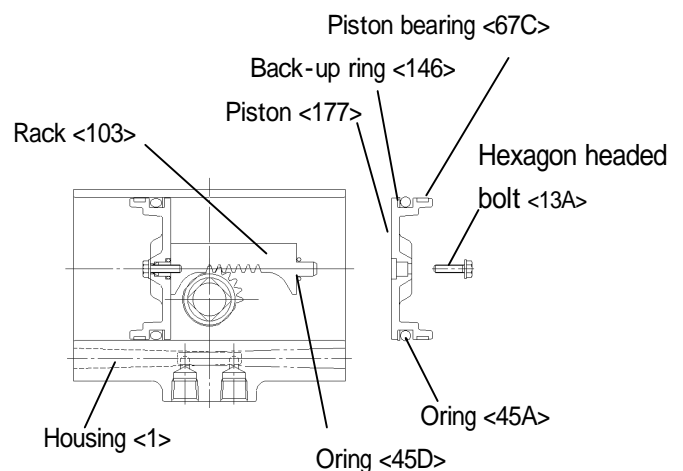

Fig.4
- (6) Loosen a hexagon headed bolt and remove a piston from the housing, by picking an outside rib with pliers (Fig.4).